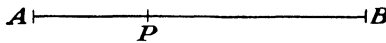

Fig. 123.
1. In your notebook draw any diagram similar to Fig. 123. Construct a perpendicular to line  $AB$  at point  $P$ .
2. Drop a perpendicular from point  $C$  (Fig. 123) to line  $AB$ .